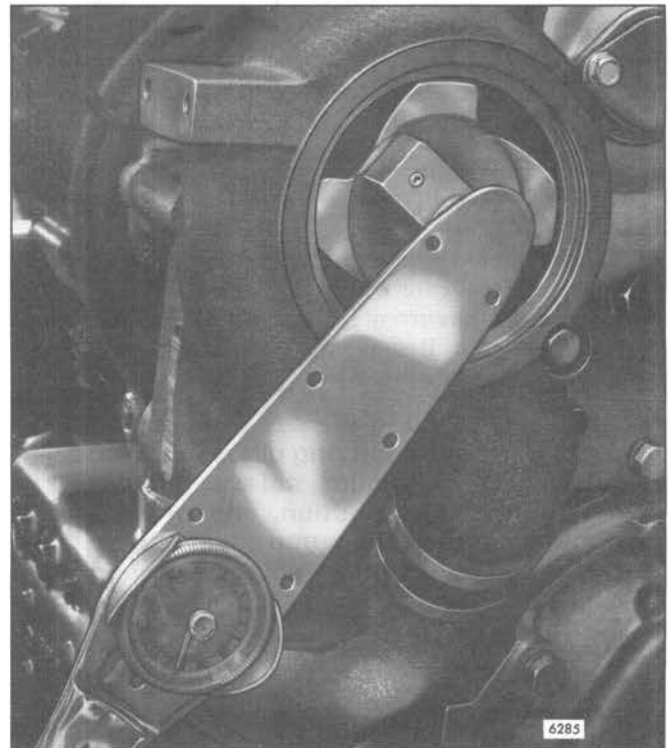

Fig. 9 – Checking Impeller and Gear Slip Torque with Tool J-33765
10. Check the water pump impeller and gear *slip torque*, as follows (Fig. 9):